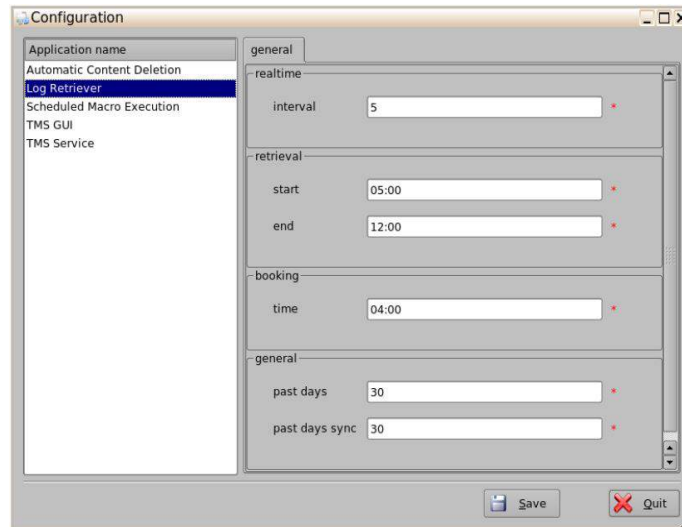

Figure 110: Application Configuration
- To access this feature, click on the Applications Configuration icon. The following window will appear (Figure 110):